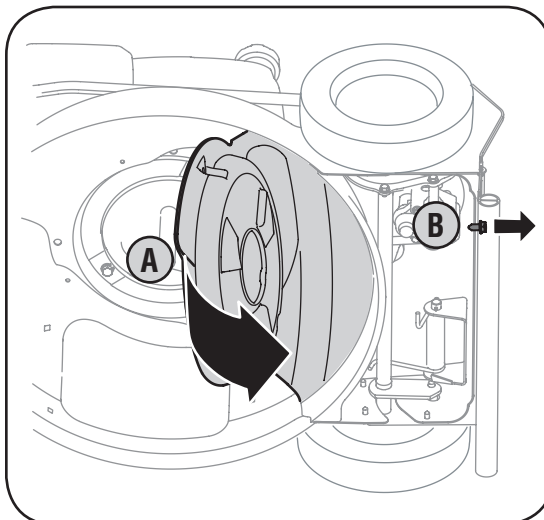

Figure 5-5: Peel back baffle (A) and loosen screw holding transmission to deck. (B)
6. Lift baffle towards the rear of the mower. Remove the hex bolt that holds the transmission to the mower deck from the rear of unit. See Figure 5-5.